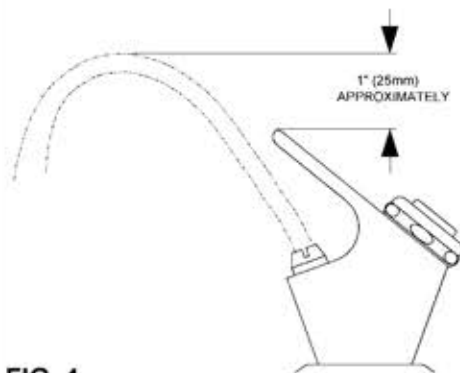
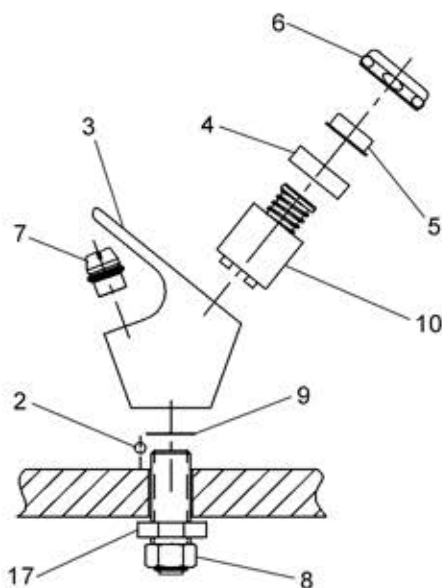

FIG. 4
FIG. 5
7. **Check stream height from bubbler.** Stream height is factory set at 45-50 PSI. If supply pressure varies greatly from this, remove items 5 and 6 (See Figure 5, Page 4) and adjust the screw on regulator (item 10). Clockwise adjustment will raise stream height and counter-clockwise adjustment will lower stream height. For best adjustment stream height should be approximately 1" (25mm) above the bubbler guard. (See Figure 4, Page 4).